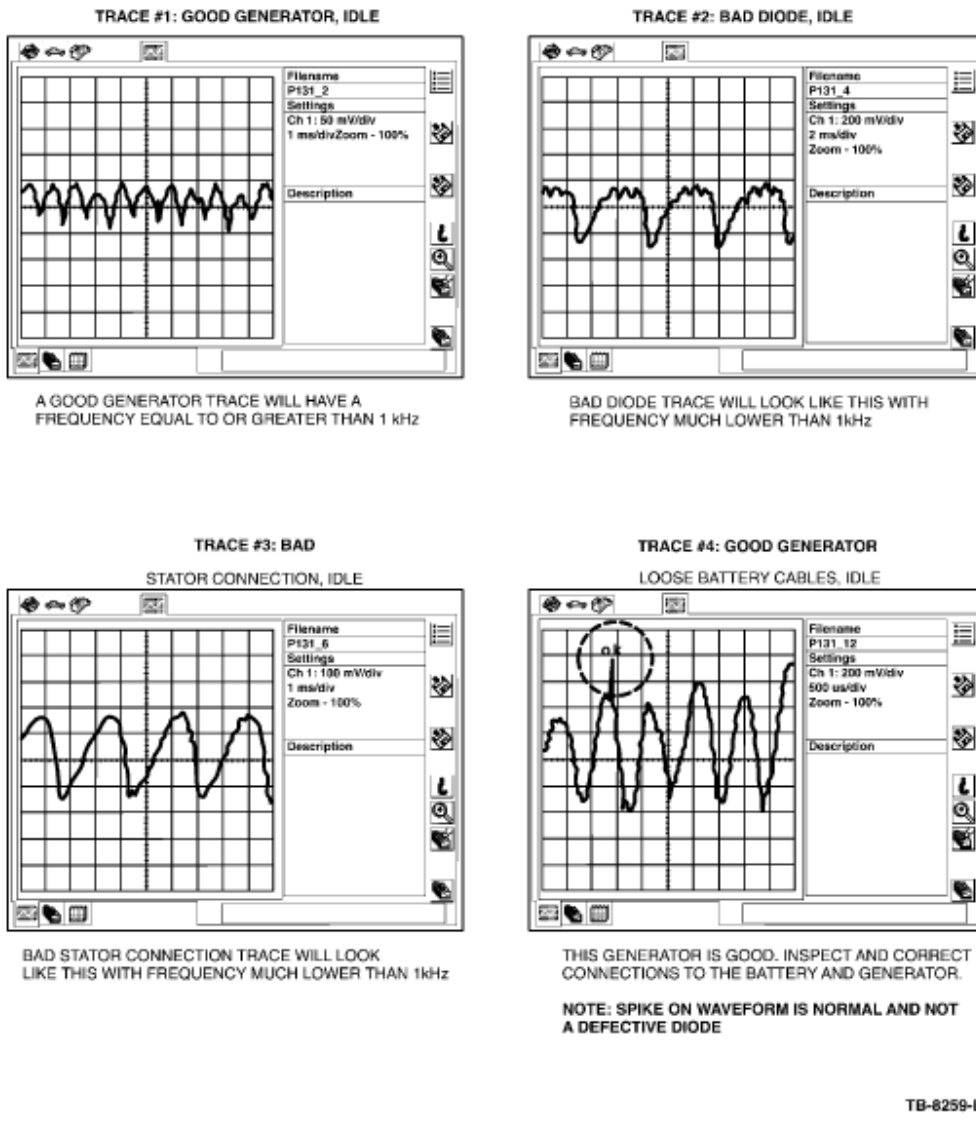

Figure 1
- a. Compare the WDS saved waveform to the sample waveforms in Figure 1. If measured ripple frequency is lower than 500 Hz, then generator is faulty and should be replaced. If generator is not faulty proceed to Step 16.